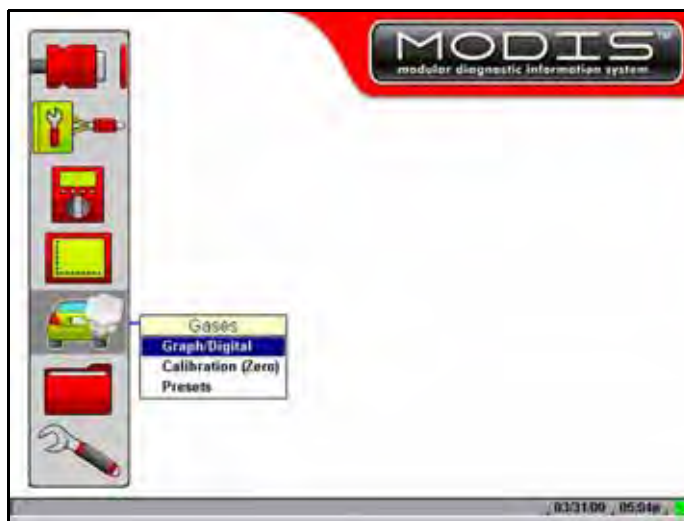

Figure 4-1 Sample GASES button and menu
2. Select **Gases > Graph/Digital** (Figure 4-1).